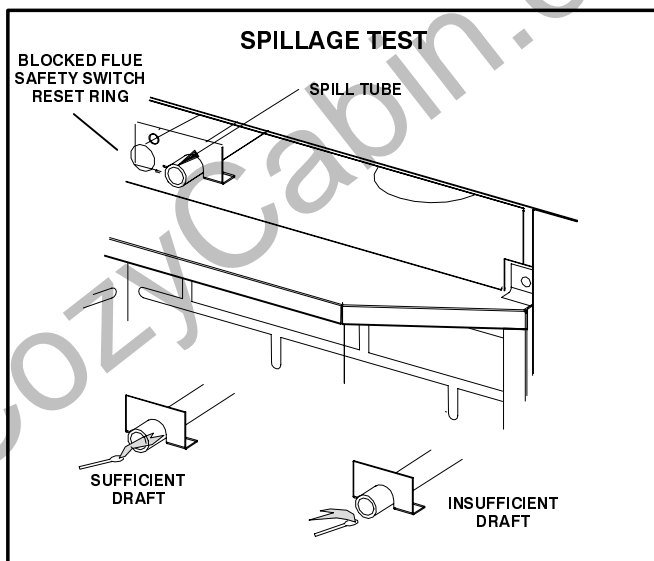

FIGURE 6
- 3 - Wait 5 minutes. Hold a lit match in front of the spill tube opening to check for venting action. Spill tube location is shown in figure 6.
tube. See figure 6. The appliance should relight and remain lit. If this does not occur, turn off the appliance and call a qualified service technician.